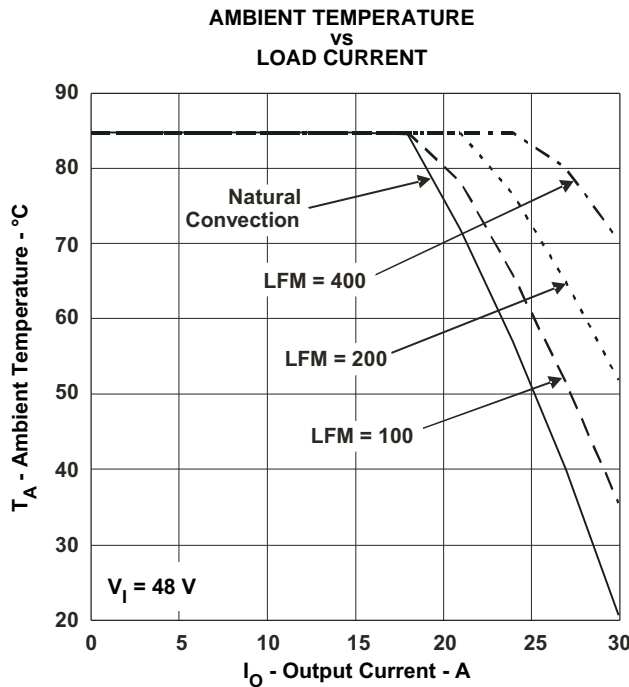

Figure 4.
- (2) The temperature derating curves represent operating conditions at which internal components are at or below manufacturer's maximum rated operating temperature. Derating limits apply to modules soldered directly to a 100–mm x 100–mm, double-sided PCB with 2 oz. copper. For surface mount packages, multiple vias (plated through holes) are required to add thermal paths around the power pins. Please refer to the mechanical specification for more information. Applies to Figure 4.